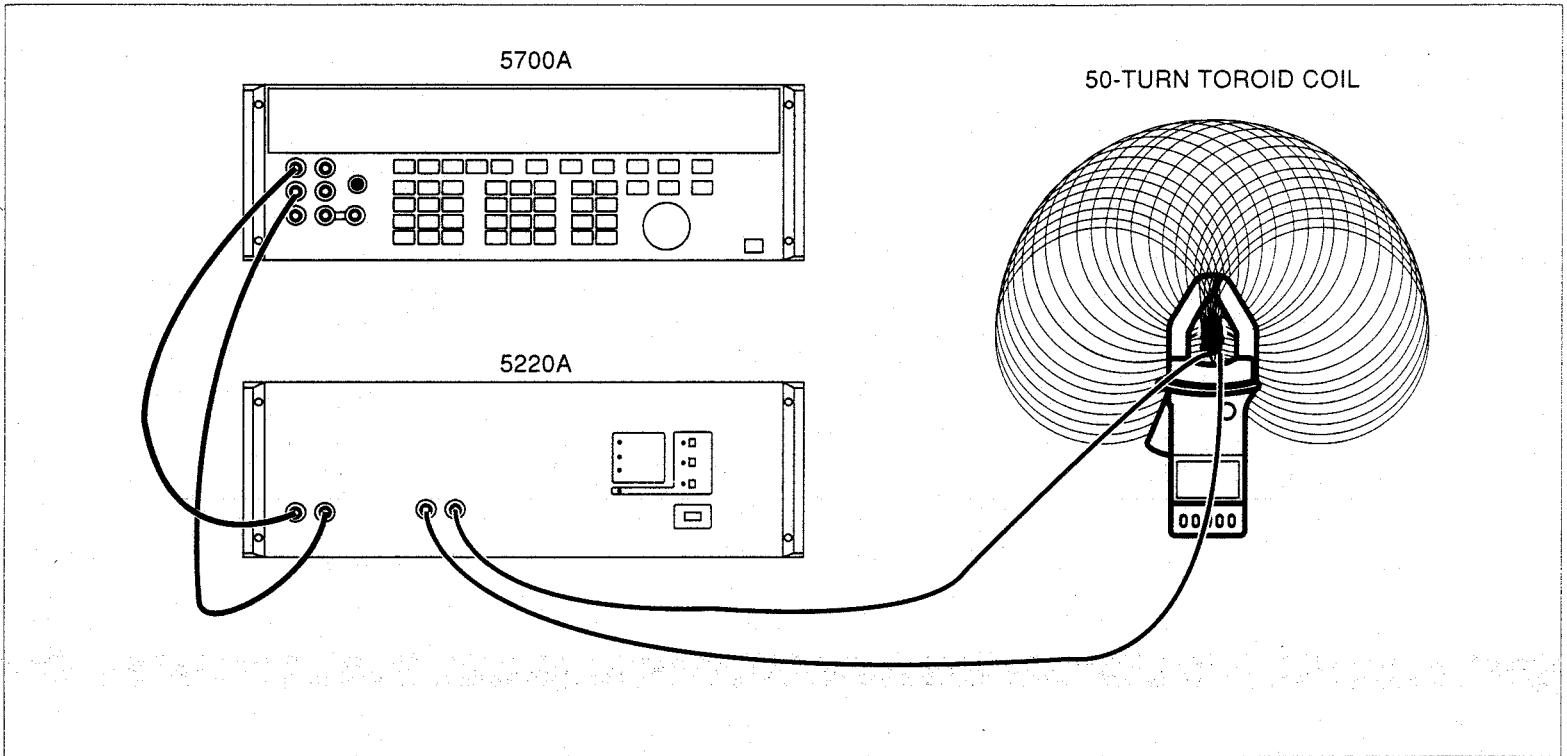
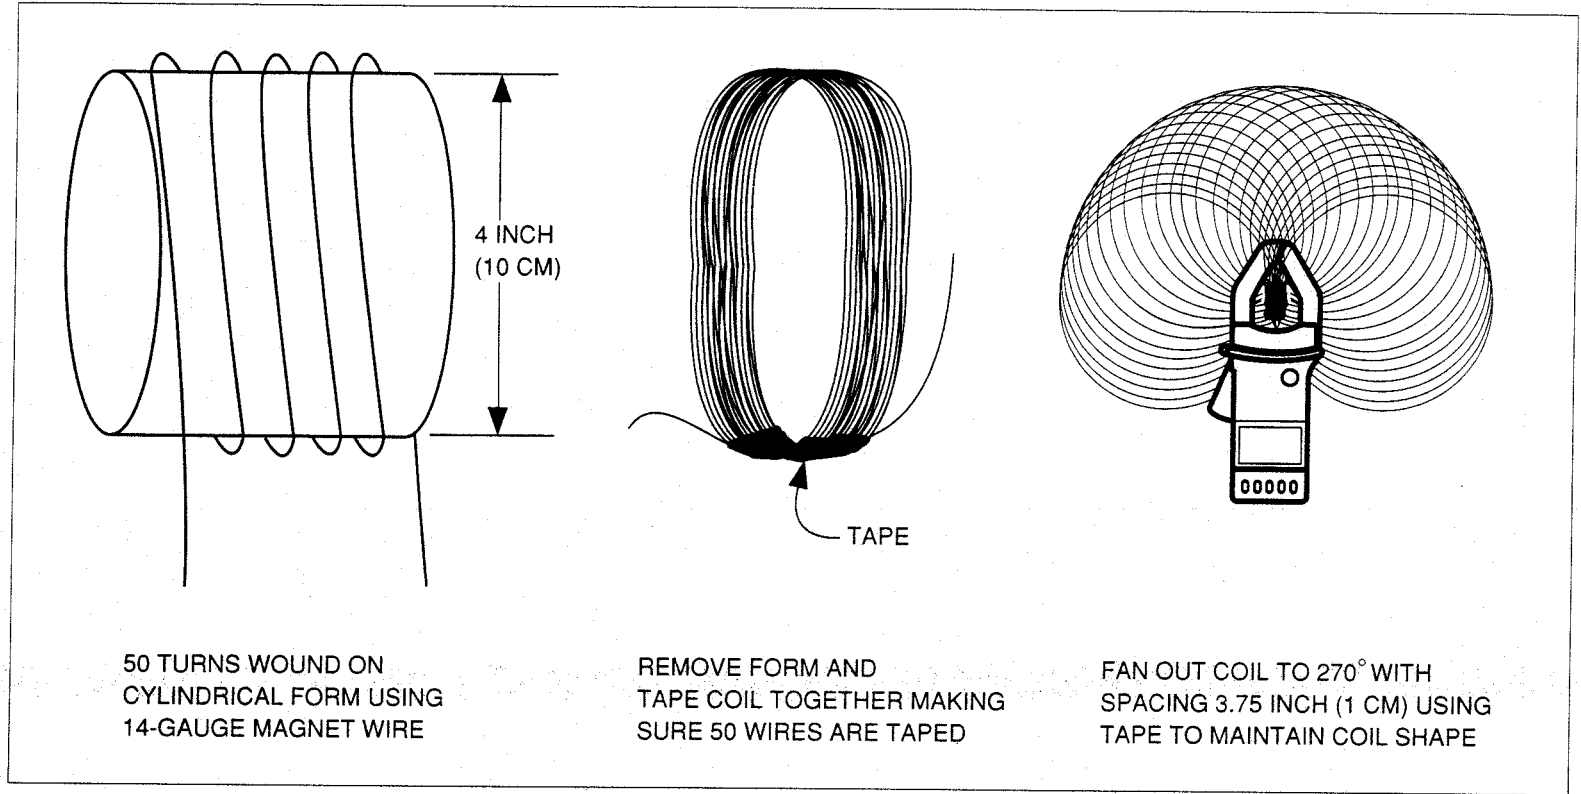

Figure 6. Calibration Procedure Equipment Configuration
Figure 7. Construction Procedure for 50-Turn Toroid Coil
Magnet Wire Coil 50 Turns of #14 single conductor copper wire 4.0 inch diameter wound in a 270° toroid configuration.	(See Figure 7)
Complete the following procedure to calibrate the meter. Refer to Figure 5 for the adjustment location, and Figure 6 for the test equipment configuration. Before starting the procedure, be sure the battery check indicates "above scale" at power up (see "Meter Tutorial"). This procedure uses a 50-turn toroid coil, which can be constructed as shown in Figure 7.
1. Connect the test equipment for the calibration procedure, including a 50-turn toroid coil, as shown in Figure 6.